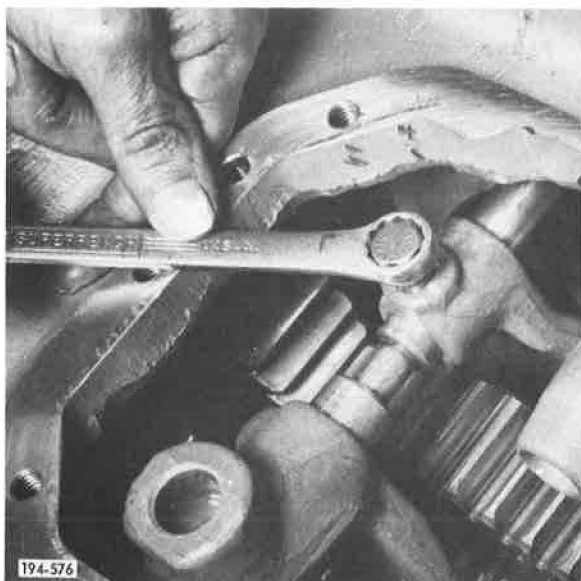

Figure 402. Installing Setscrew
20. Install setscrews into first speed shift fork, and into second/third speed shift fork, and tighten to 35 to 45 lb. ft. torque. Refer to Torque and Tolerance Table, Item 10. See Figure 402.